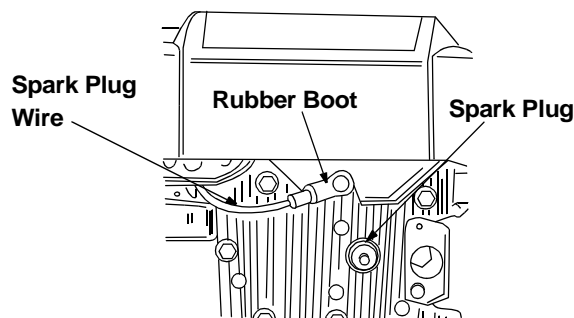

Figure 1
- Before setting up your lawn mower, disconnect the spark plug wire from the spark plug. See Figure 1.